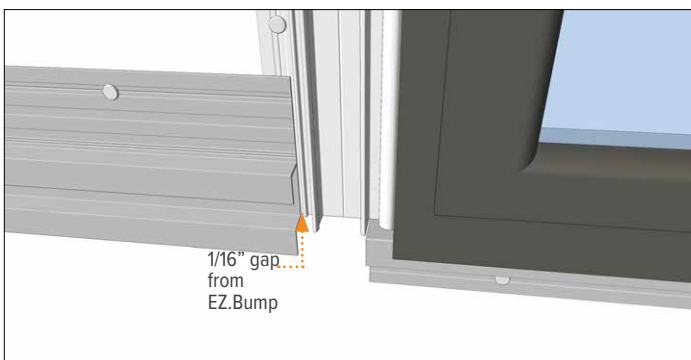

Figure 19.2
5. At bottom of window apply an EZ.5 horizontal by lapping it over the EZ.19 nailing flange and leave a 1/16" gap from the EZ.Bump® and fasten. (Figure 19.2).